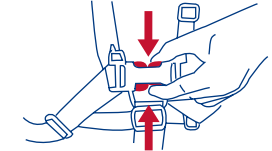

Fig. 16
16) • To release, apply pressure to both sides of each male clip until the clip is released (Fig. 16).